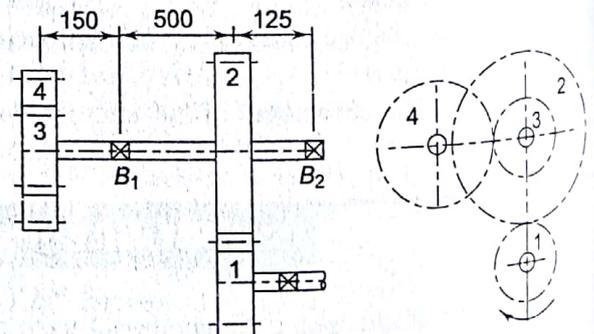

Fig. 17.49
17.6 **D** A train of spur gears with 20° full depth involute teeth is shown in Fig. 17.49. Gear 1 is the driving gear and transmits 50 kW power at 300 rpm to the gear train. The number of teeth on gears 1, 2, 3 and 4 are 30, 60, 25 and 50 respectively; while the module for all gears is 8 mm. Gears 2 and 3 are mounted on the same shaft. Gear 1 is rotating in clockwise direction when seen from the left side of the page. Calculate: **[LO 4]**